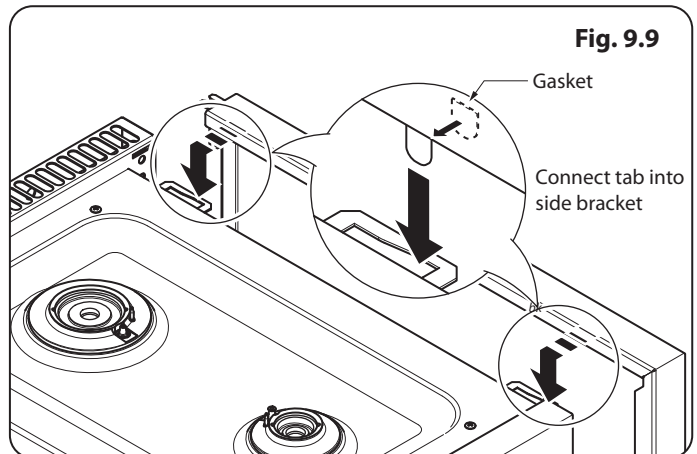

Fig. 9.9
2. Inside the top of the side panel top are two tabs. Connect these tabs into the cut-outs in the top edge of the cooker (**Fig. 9.9**).
5. **Note:** If a side panel is loose, fit one of the extra gaskets to the inner face of the front bracket locating tabs (**Fig. 9.9**) and refit.